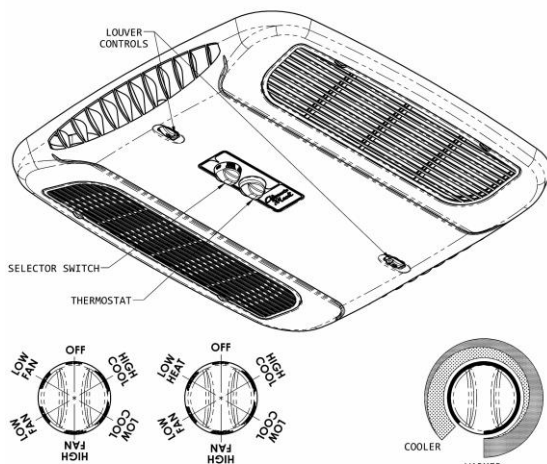

Figure 1
A. The Selector Switch – The selector switch determines which mode of operation the air conditioner will be in. By rotating the selector switch, the operator can obtain any system function desired. System functions vary depending upon options of both the roof top unit and ceiling assembly. Figure 1 shows selector switch location and lists all available functions by model.
For "Heat/Cool" models, the thermostat also controls the "ON" and "OFF" temperature settings of the heater assembly (See Figure 1).
I. For Cooling (Refer to Figure 1, page 8).
IV. For Heating ("Elect-A-Heat" Ceiling Assembly Model Only) Refer to Figure 1, page 8.
V. For Air Circulation Only (Refer to Figure 1, page 8).